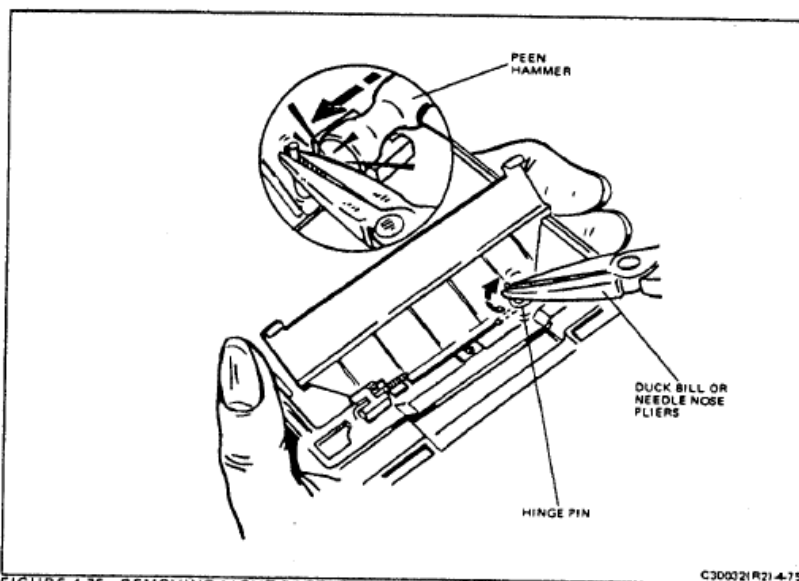

FIGURE 4-75 REMOVING LIGHT BAFFLE HINGE PIN
- Use duck-bill or needle-nose pliers: grasp the light baffle hinge pin and bend it to a 90° angle. See Figure 4-75. Use a small peen hammer and knock the pins inboard, striking the tool while holding the bent end of the pin. Remove the left-hand (viewed from rear) pin first. Remove the spring and light baffle by sliding off the right-hand pin.